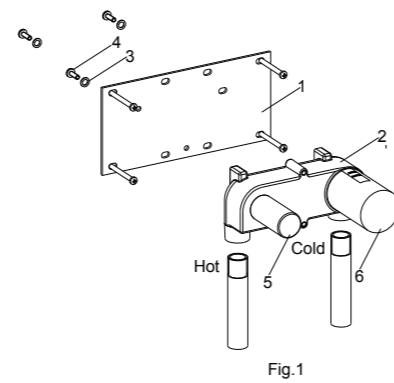
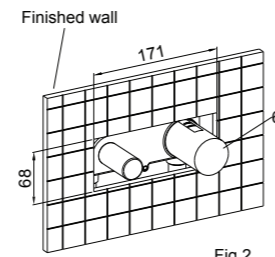

Fig.1
Fig.2
- 2.) Fix the mounting plate to the valve body(2) with the washers(3) and the three fixing screws(4). Be sure the protectors(5,6) face front and the inlet with the red mark is on the left.
- 3.) The outer surface of the finished wall should be between the MAX & MIN marks on the protectors(6) shown in Fig.1 and Fig.2. The size of the opening in the finished wall is as shown in Fig.2.
- 5.) Connect Rc1/2" hot and cold supplies to the valve inlets shown in Fig.1. Connect the hot supply to the left inlet with the red mark.